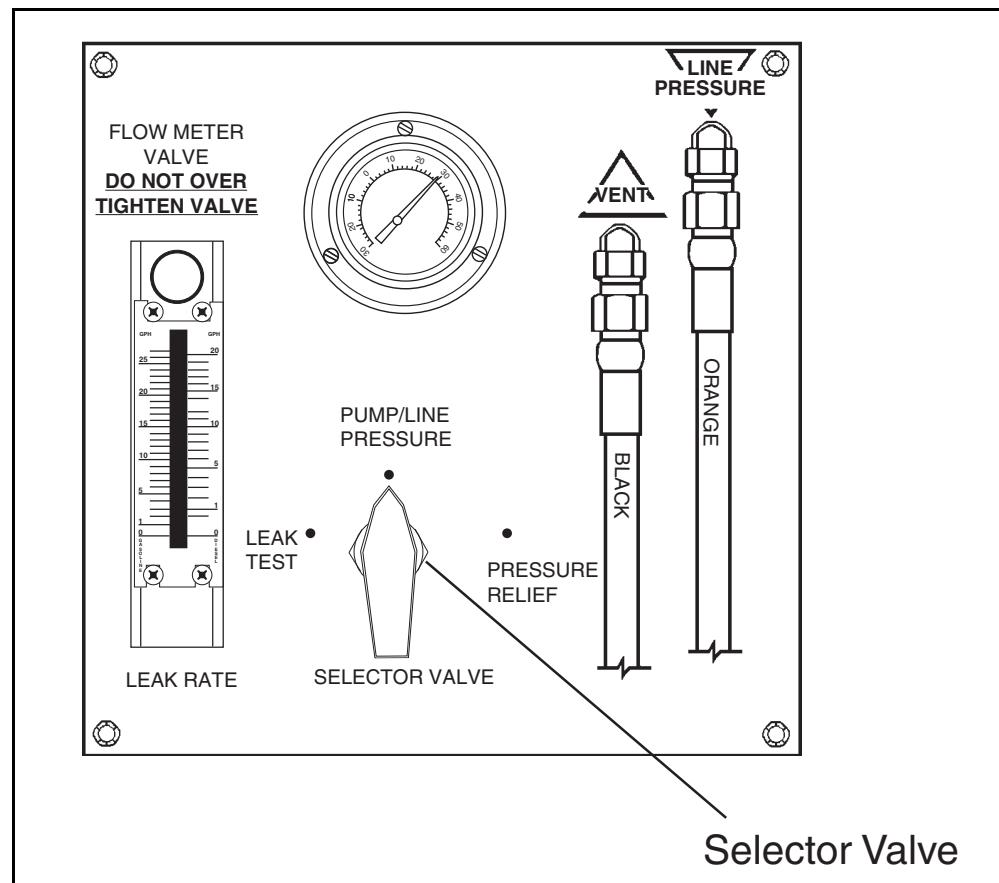

Figure 4. FXT selector valve
- c. Turn FXT's Selector Valve to 'Pump/Line Pressure' position as shown in Figure 4. When the selector valve is in this position, the FXT is monitoring actual line pressure. As actual line pressure is displayed on the compound gauge, specifications can be checked.